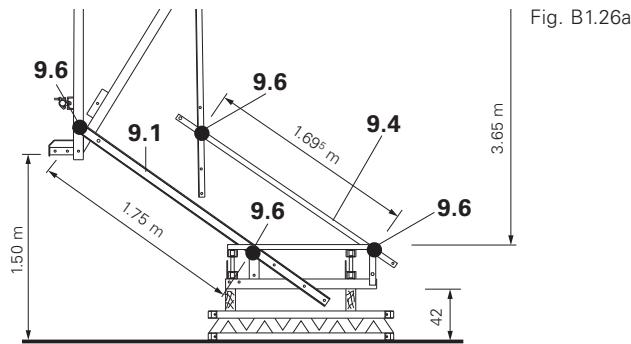

Fig. B1.26a
(Fig. B1.26a – d) Attach wind bracing (7), see B1.
Mark out Platform Post CB 225 (9.1) and Guardrail Post 190 (9.4) at the top. (Fig. B1.26a)